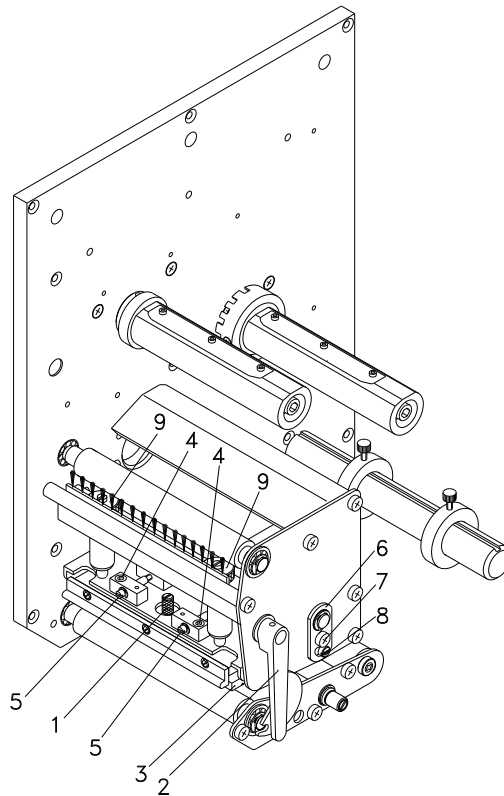

Figure 28
1. Loosen the screws (4, Figure 28) with a hexagon key by approx. $\frac{1}{4}$ rotations.
2. Adjust the parallelism with the adjusting screws (5, Figure 28).
4. Tighten again the screws (4, Figure 28).
1. Loosen the screw (7, Figure 28) with a screwdriver by approx. $\frac{1}{4}$ rotations.
2. In order to achieve a pressure balance, turn the excentric bolt (8, Figure 28) as long as the printing result comes up to your full expectation.
3. Tighten again the screw (7, Figure 28).
1. Turn the pressure screws (9, Figure 28) to change the pressure of printhead.
2. Turning the pressure screws (9, Figure 28) as far as they will go in clockwise direction results in a pressure increase of 10N in contrast to the factory setting.
3. Turning the pressure screws (9, Figure 28) exactly one rotation from the right stop position counter clockwise results in the factory settings.